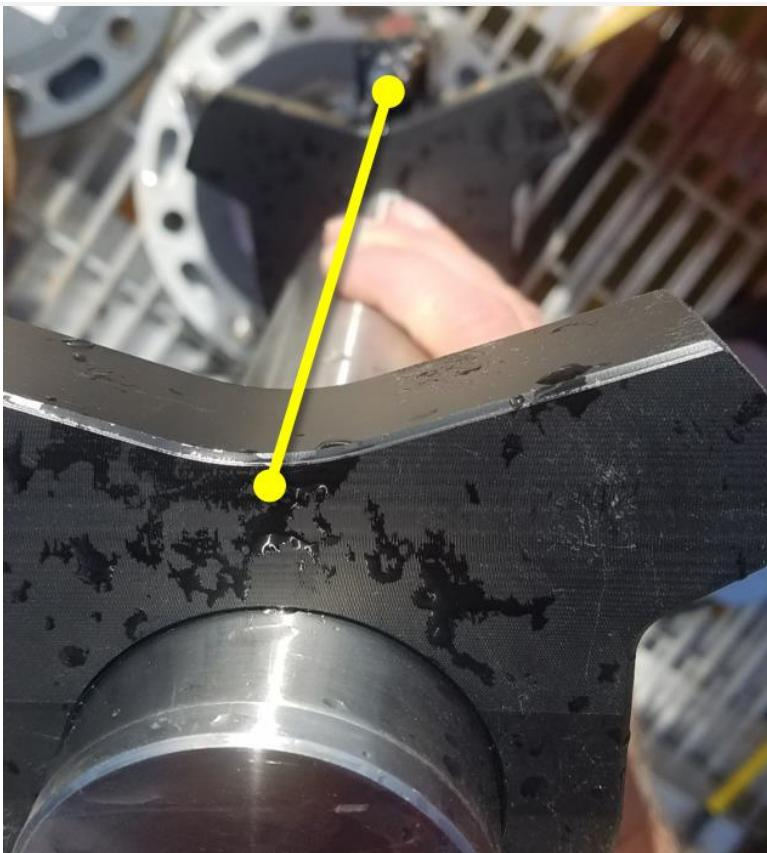

Figure 82. SUNA Wiper Placement
STEP 9 | Ensure the wiper motor aligns within the area identified in yellow in Figure 82.